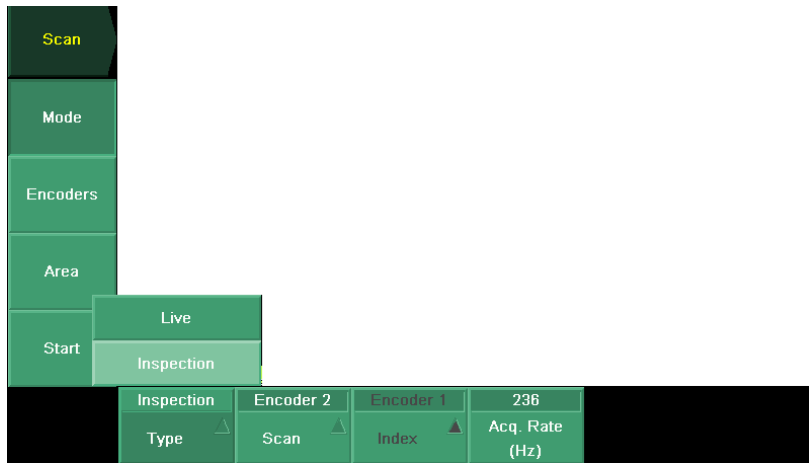

Figure A-3 Scan > Mode submenu
1. Select **Scan > Mode > Type = Inspection** (see Figure A-3 on page 55).